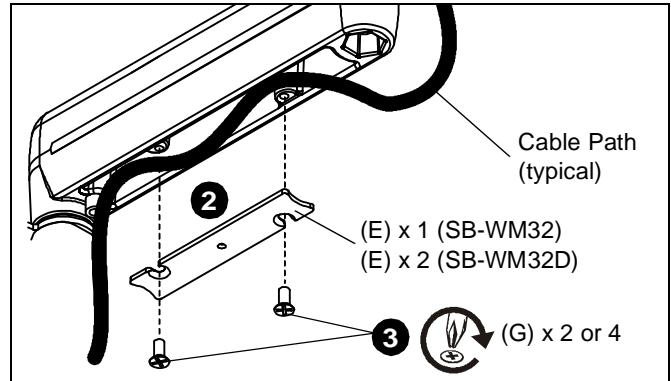

Figure 7
- Carefully insert cables in cavity located in lower portion of mount arm. (See Figure 7)
- Install cover (E) with two 8-32 x 3/8" Phillips screws (G). (See Figure 7)